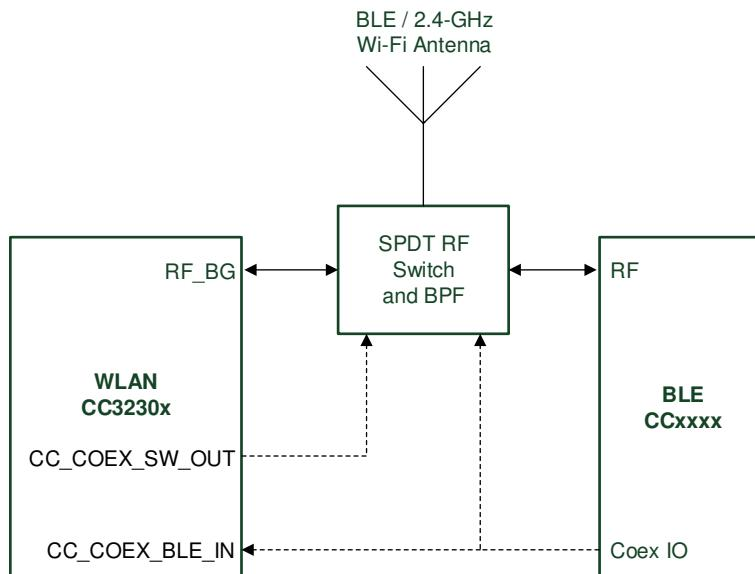

図 9-1. Single-Antenna Coexistence Mode Block Diagram
- In this mode, (see 図 9-1) the two entities share the antenna through an RF switch using two GPIOs (one input and one output from the WLAN perspective).
図 9-1 shows the single antenna implementation of a complete Bluetooth® low energy and WLAN coexistence network. The Coex switch is controlled by a GPIO signal from the BLE device and a GPIO signal from the CC3230x device.